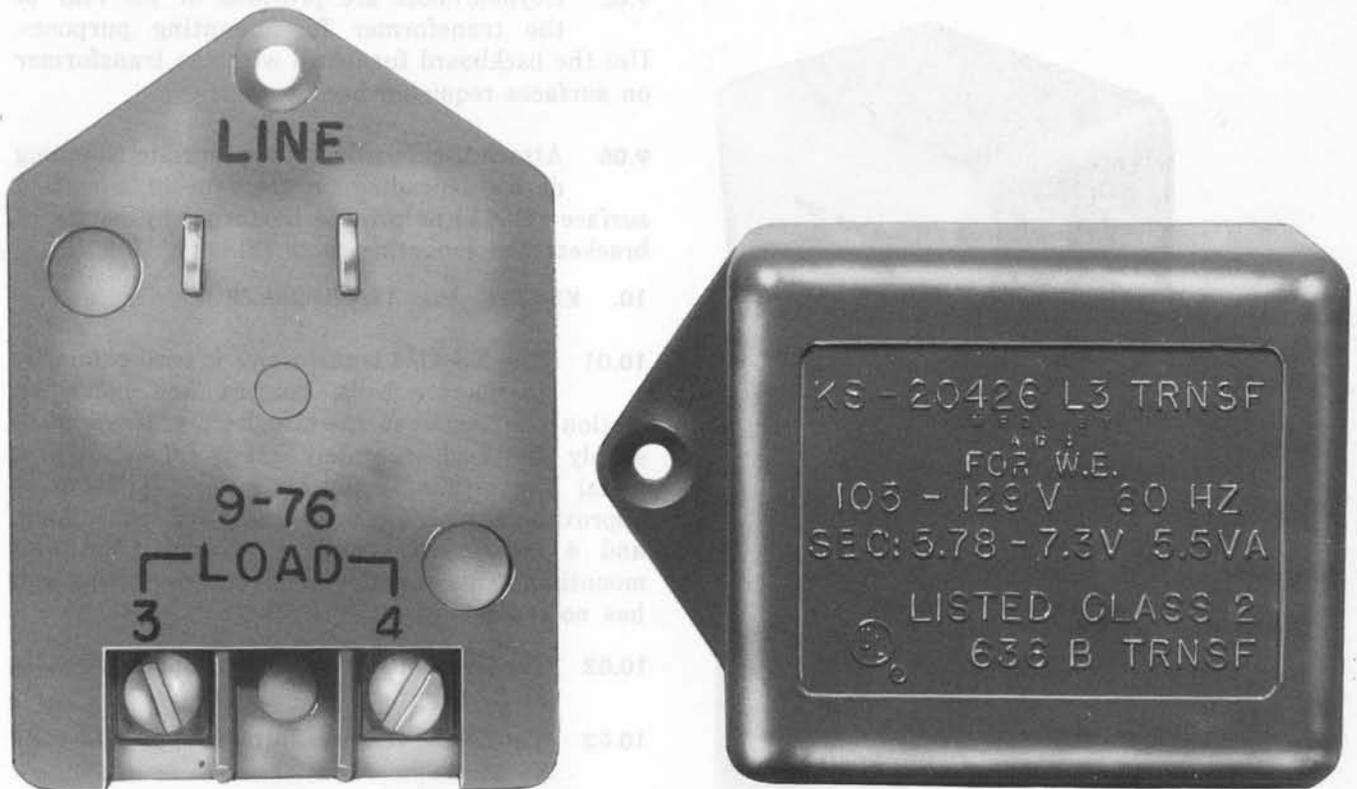

Fig. 14—KS-20426 Transformer Equipped With Molded Mounting Tab
5.03 Some transformers are provided with a mounting tab which is used to hold the transformer securely in the receptacle by using the outlet cover screw. See Fig. 14.